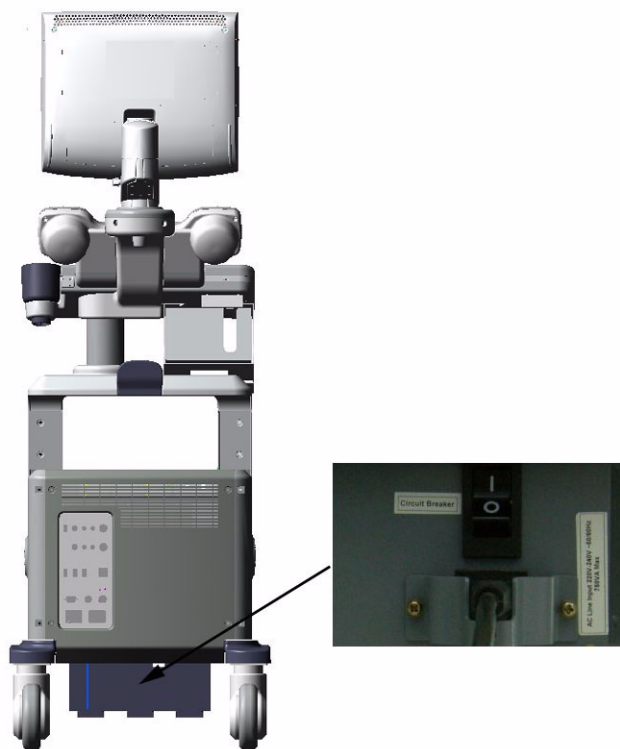

Figure 3-8 Circuit Breaker
- 3.) Switch OFF the Main Circuit Breaker at the rear of the system refer to Figure 3-8 on page 3-11 .